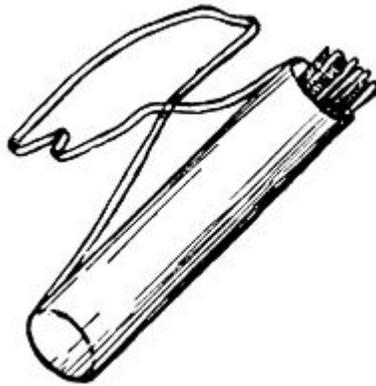

FIG. 247.—A Quiver.
**A Quiver** of some sort should be provided, large enough to carry a dozen or more arrows, and this should be three inches shorter than the arrows, so that their ends will project above the top. It may be made out of any thick cloth, as shown in Fig. 247. A circular piece of cardboard is placed in the bottom to which the cloth is sewed, and a piece of heavy wire, bent into a circle, fits in the top to keep the bag open. The quiver should hang on your right side, being suspended by means of a cloth strap long enough to pass over the left shoulder.